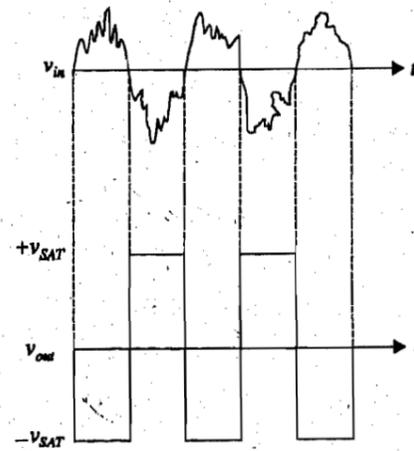

Fig.7.19
- 4) Output waveform is given in Fig.7.19.